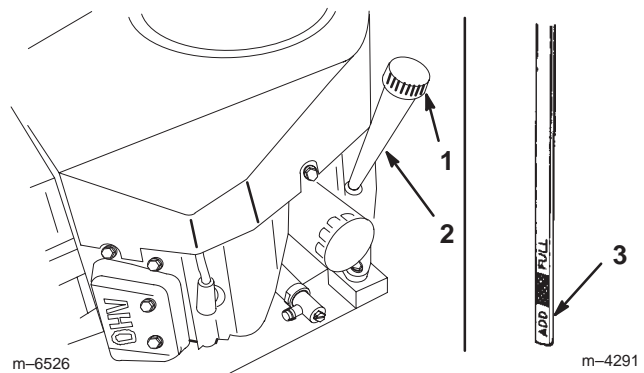

Figure 20
2. Clean around the oil dipstick (Fig. 20) so that dirt cannot fall into the filler hole and damage the engine.
3. Unscrew the oil dipstick and wipe the metal end clean (Fig. 20).
4. Slide the oil dipstick fully into the filler tube, but do not thread it onto the tube (Fig. 20). Pull the dipstick out and look at the metal end. If the oil level is low, slowly pour only enough oil into the filler tube to raise the level to the **full** mark on the dipstick.
6. Clean around the oil dipstick and unscrew the cap (Fig. 20).
- Slowly pour approximately 80% of the specified oil into the filler cap (Fig. 20). Refer to Servicing the Engine Oil, page 24.